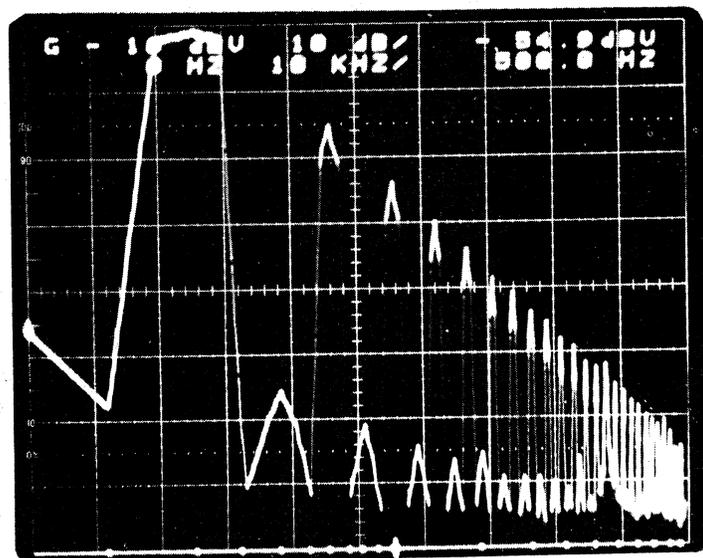

Fig. 4-11 Log Frequency Scale
- b. Move FREQ SCALE to LOG. Press SPECTRUM GAIN up once so the bottom of the display clears the lowest vertical graticule (Fig. 4-11). The horizontal scale is calibrated over two decades. The vertical tick mark equals 10 KHz corresponding to the frequency scale annotation on the CRT. Each dot to the right of the tick mark is separated by 10 KHz and each one to the left is separated by 1 KHz. If the starting frequency is other than 0 Hz, the vertical tick mark is referenced to the starting frequency. Return FREQ SCALE to LIN.